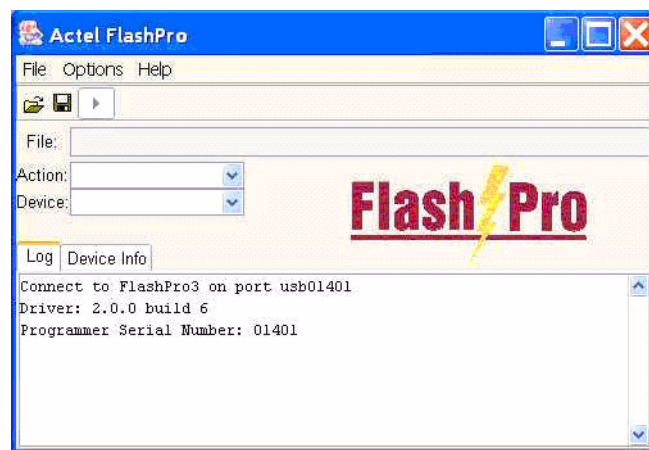

Figure 7-40. FlashPro3 Successful Connection
4. Click Connect. A successful connection, or any error, appears in the Log window, as shown in Figure 7-40.